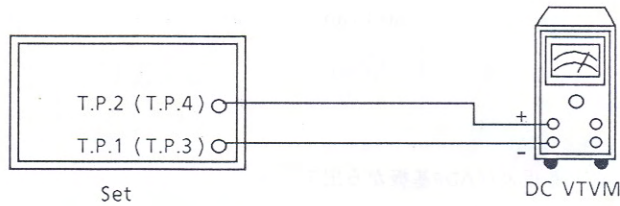

Figure 11
- (1) Idling Adjustment (Figure 11)